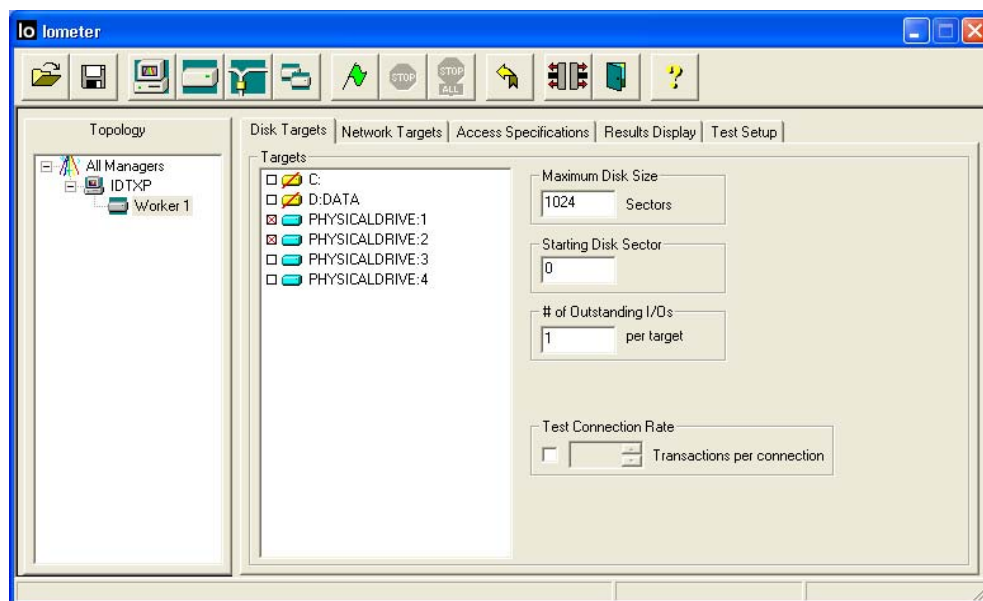

Figure 9 Iometer Disk Target Selection Screen
1. If the HPFC Cards are setup properly, when the Iometer is opened it should display several physical volumes in addition to whatever Hard Disks are physically present in the system (see Figure 9). If the physical volumes that represent the HPFC Cards are not displayed, go into the disk manager and delete any partitions that may be present on these physical drives.
2. In the Iometer window, assign a worker to one or two of the visible physical volumes shown in Figure 9.